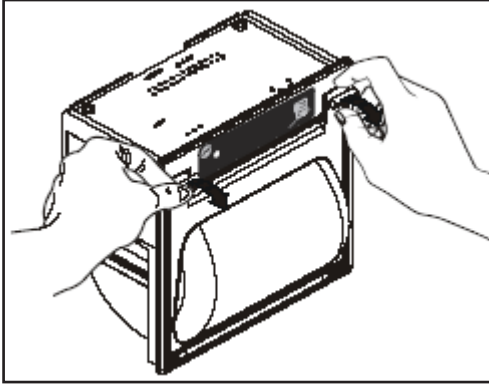

Fig. 57: Opening printer
1. Open the lid of the printer as shown in Fig. 57.